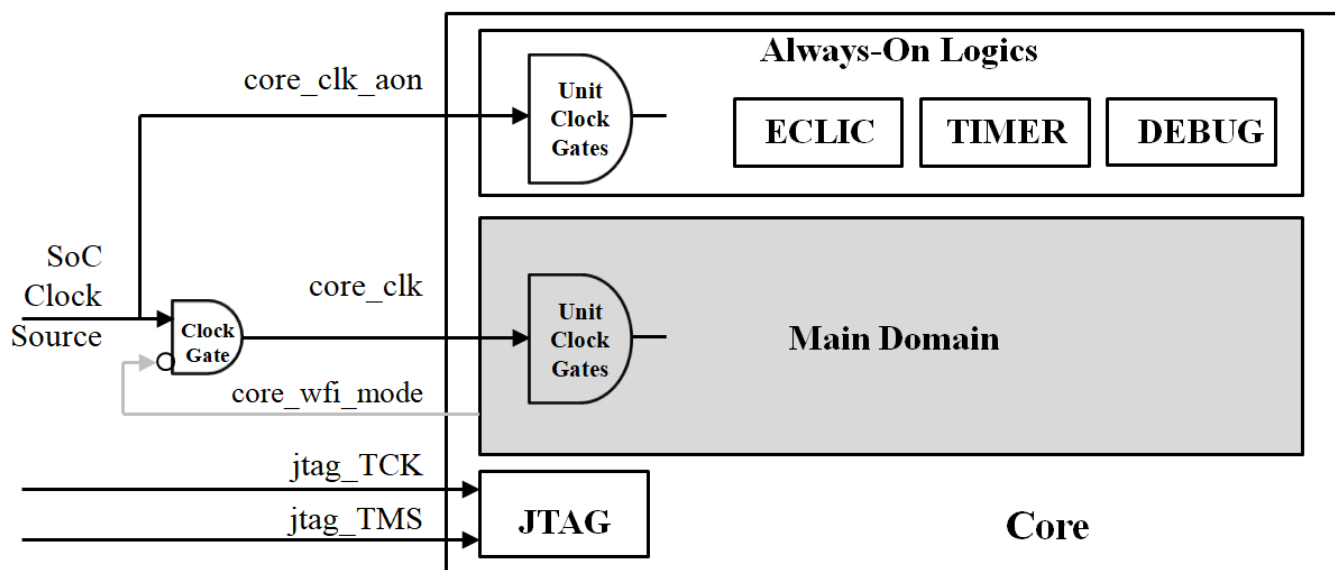

Figure 2-1 Clock domains of the N200 Series Core
The clock domains of the N200 Series Core are shown in Figure 2-1. The entire Core is divided into three asynchronous clock domains:
- As shown in Figure 2-1, when the WFI/WFE is successfully executed, the output signal `core_wfi_mode` of the Core is asserted, indicating that the Core has entered to the sleep mode; at the SoC level, the signal `core_wfi_mode` should be used to control the external gate logic to disable the `core_clk`.